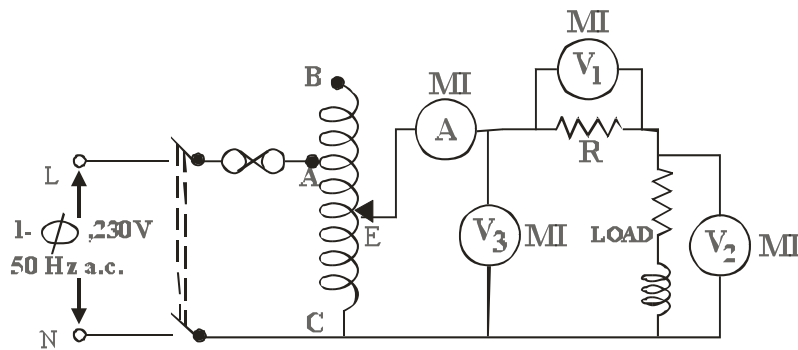

Fig. 2.9. Three voltmeter method
1. Connect the circuit as per fig. 2.9.